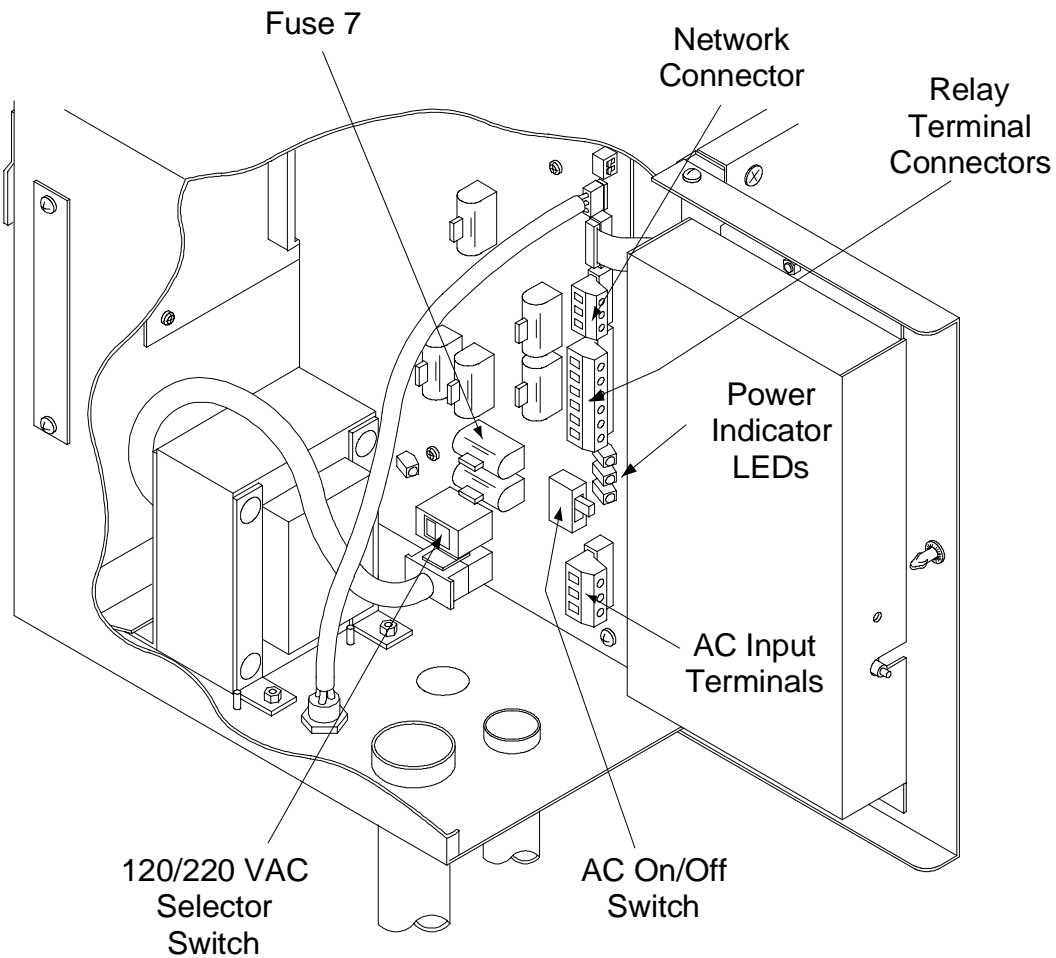

Figure 1 Cutaway of the Prolink main data chassis and detailed AC connection
While making AC connections, please refer to the instructions that follow *figure 1*.
Step 2: Make sure that the power supply circuit board AC On/Off switch is in the **OFF** position (Down). Refer to *figure 1*.
Step 3: In conduit, run a (3) conductor, minimum 16-gauge, gas and oil resistant cable from a **circuit breaker protected, dedicated isolated circuit** to the AC input terminals on the Prolink power supply circuit board. These terminals are marked on the circuit board underneath each terminal.
Step 8: Slide the power supply circuit board AC On/Off switch to the ON position (UP). The Power On LED (green) should now be lit. This LED indicates that the power supply and circuit board are energized.